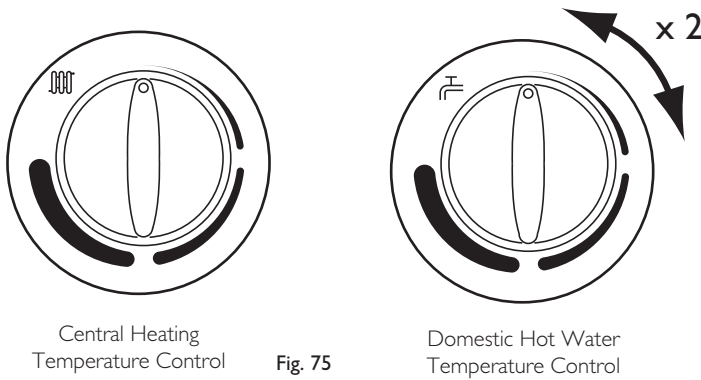

Fig. 75
3. Turn both control knobs fully anticlockwise, then quickly turn the right hand knob 1/4 clockwise twice and back fully anticlockwise (Fig. 75).